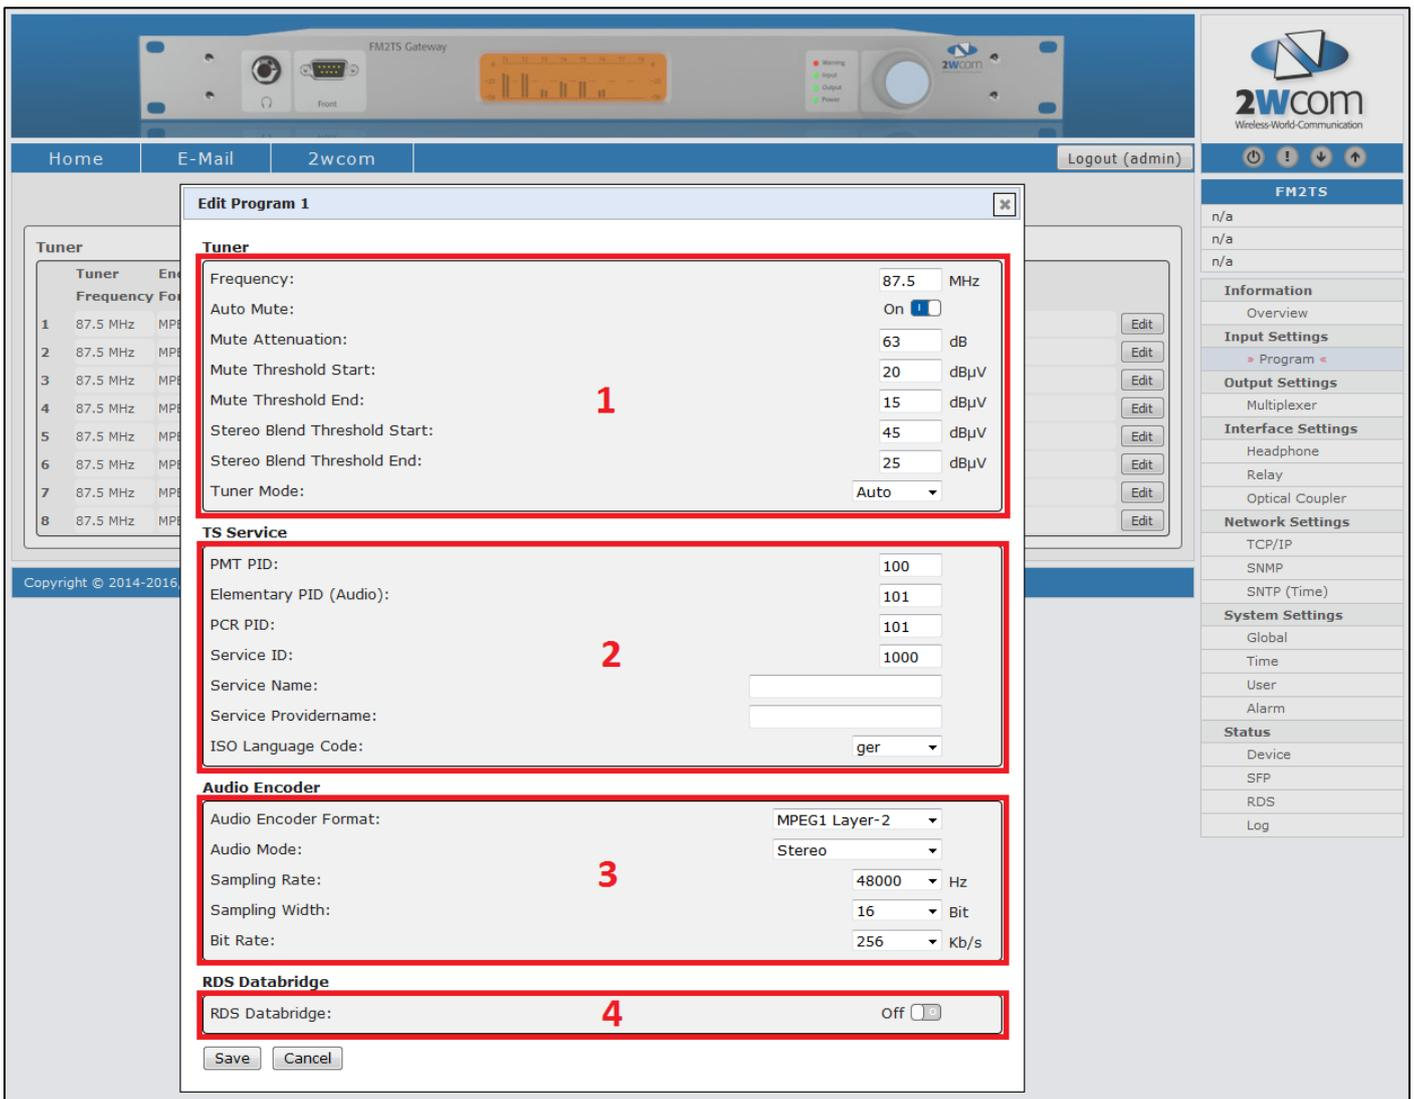

Figure 6: FM2TS Web interface – Program configurations
3. Click the "Edit" button in the line "Tuner 1-8" , to configure the appropriate program. The window *Edit Program* appears (see Figure 6).
Enter or change in the first block "Tuner" following parameters for the receipt of the audio program (see field 1 in Figure 6):
Set up in the block "Audio Encoder" following parameters of the audio encoder for each of the 8 audio programs (see field 2 in Figure 6 on page 28):
Enter or change in the block "TS Service" following TS parameters for each of the 8 audio programs (see field 3 in Figure 6 on page 28):